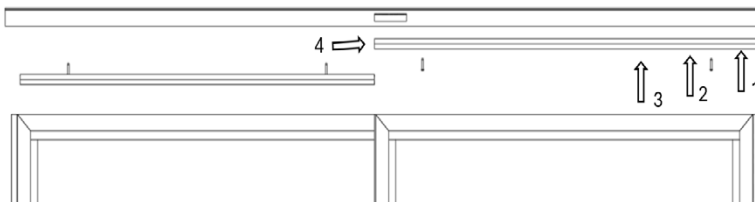

Figure 29a
47. Panels must be installed into designated tracks prior to installing Full-Length Header Rails (Figures 29a and 29b)